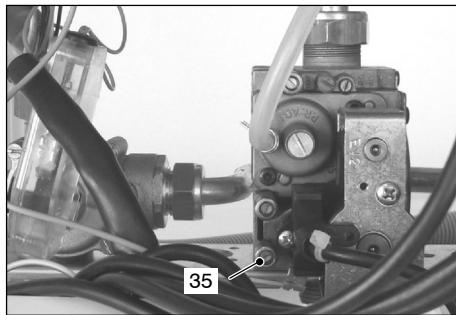

Fig. 7.7
- Loosen the internal screw on the Inlet Pressure Test Point 35 (Fig. 7.7) of the Gas Valve and connect a pressure gauge using a suitable hose.
- 8 Disconnect the pressure gauge and close the Inlet Pressure Test Point 35 (Fig. 7.7).